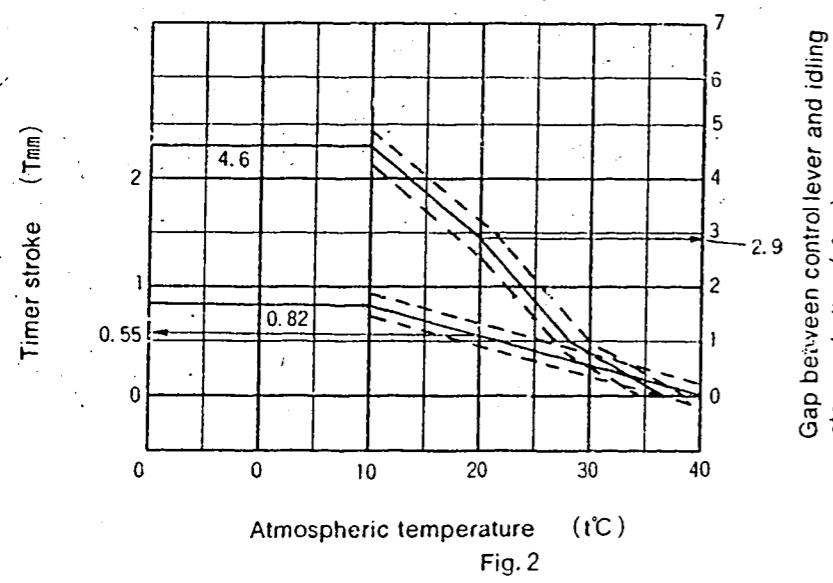

Fig. 2
1. Calculate the timer stroke from Fig. 2 according to the atmospheric temperature at the time of adjustment.
Formula for calculating Fig. 2
1. Calculate the block gauge dimension $l \pm 0.05\text{mm}$ from Fig. 2 according to the atmospheric temperature at the time of adjustment.
2. Insert the block gauge (thickness gauge) selected in Step(1) above between the bracket and the idling stopper bolt.